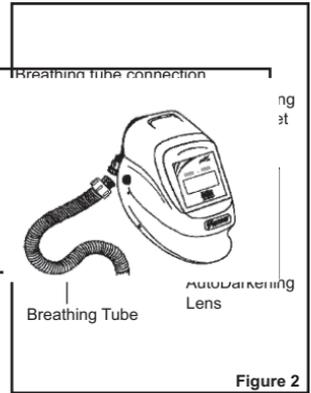

Figure 2
- Connect the breathing tube to the airduct on the back of the welding helmet by rotating the bayonet connector until the projection tab lines up in the slot. Make sure the rubber O-Ring around the end of the breathing tube is in place and not damaged or deteriorated. (See Figure 2)